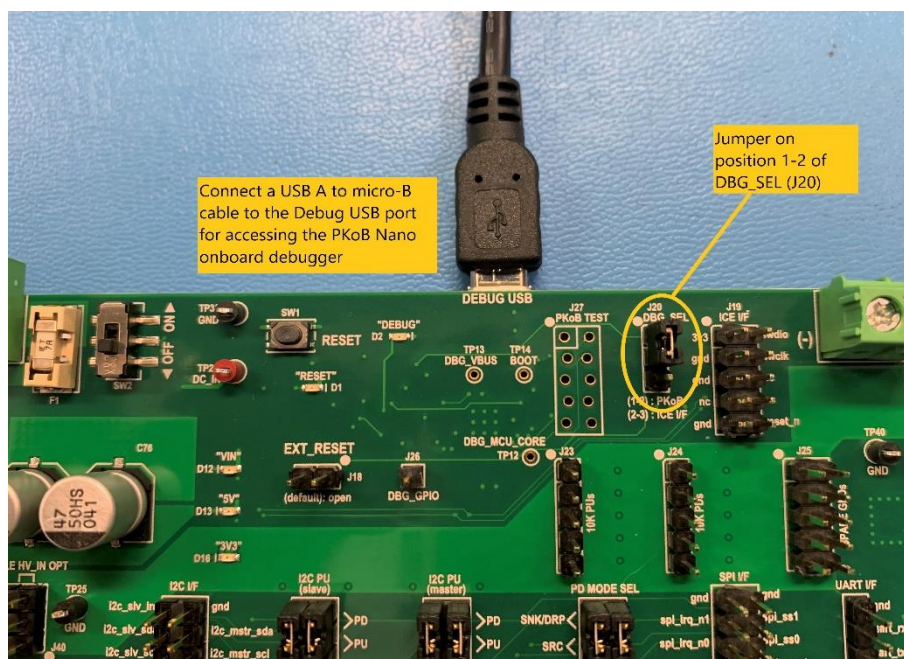

Fig 5.3 Connecting On Board Debugger
4. In Case if you are using Onboard Debugger ,Connect a USB Micro-B cable to “DEBUG USB” which on the top of the board and connect the other end USB Type-A to the laptop as shown in the Fig 5.3.